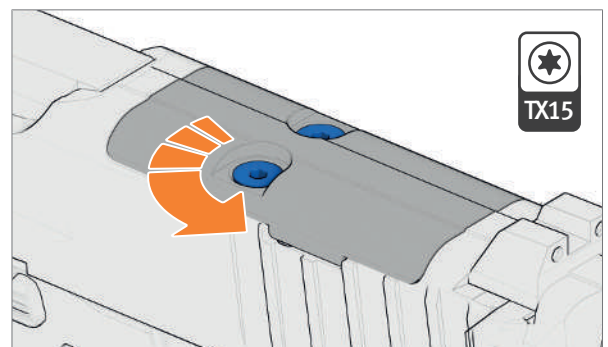

Fig. 39: Loosen screws
2. Loosen screws and remove them (Fig. 39).